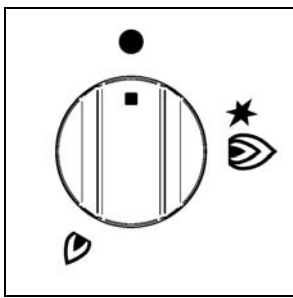
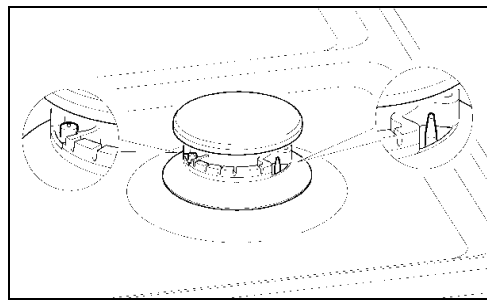

Fig.19
Fig.21
- **Manual lighting (it is always possible even when the power is cut off):** Turn the knob anticlockwise that corresponds to the burner selected, setting it to the MAXIMUM position at the etched star (large flame Fig.19) and place a lit match up to the burner.
- **Electric ignition:** Turn the knob counterclockwise that corresponds to the burner selected, setting it to the MAXIMUM position (large flame Fig. 19) and keep on pressing the knob in correspondence of the ignition symbol marked with a star (for cookers equipped with ignition trough knob) or press the ignition button marked with a star and release it as soon as the burner has ignited.
- **Burner ignition equipped with safety device (thermocouple)(fig.21):** Turn the knob anticlockwise that corresponds to the burner selected, setting it to the MAXIMUM position at the etched star (large flame Fig. 19), press the knob and activate one of the above-mentioned ignition devices. Once ignited, keep pressing the knob for about 10 seconds to allow the flame to heat the thermocouple. If the burner goes out after releasing the knob, repeat the entire operation.
- When the liquid is boiling, turn the knob to the MINIMUM position (small flame Fig.19).